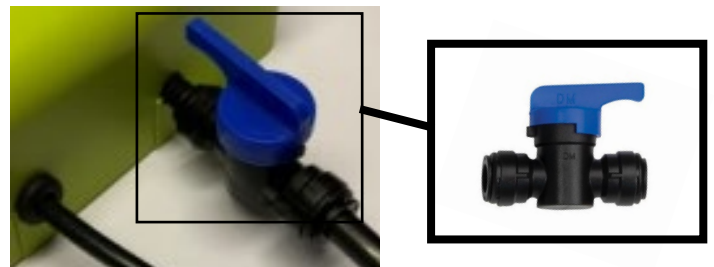

Fig.1
1. Insert end of the shutoff valve onto the air line stump, with the tail of the shutoff valve pointed toward Floë (Fig.1).